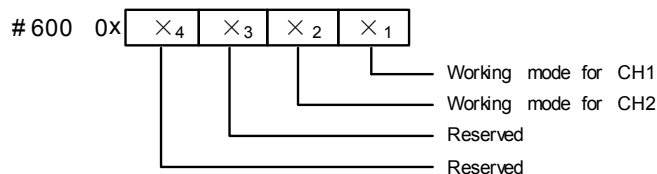

Figure 2-1 Mode setting element vs. channel
6. BFM#600: channel mode setting, used to set the working modes of CH1 ~ CH2. See Figure 2-1 for their correspondence.